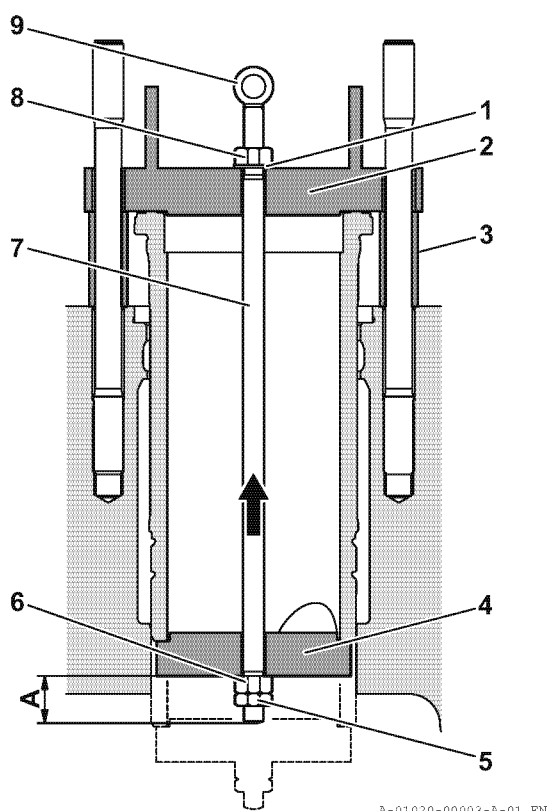

Fig.2 Cylinder liner removal
1. Install the special tools in this sequence. Refer to Fig. 2.